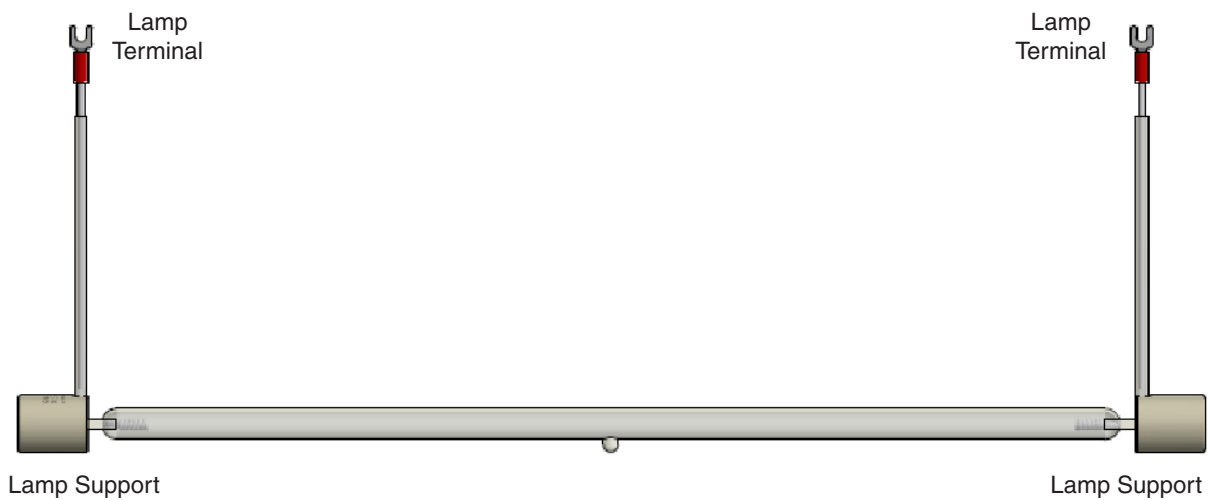

Figure 7.1a: Q-SUN xenon lamp.
- Figure 7.1a shows a diagram of the xenon lamp. See Section 14.1 and Section 16 for lamp replacement information.